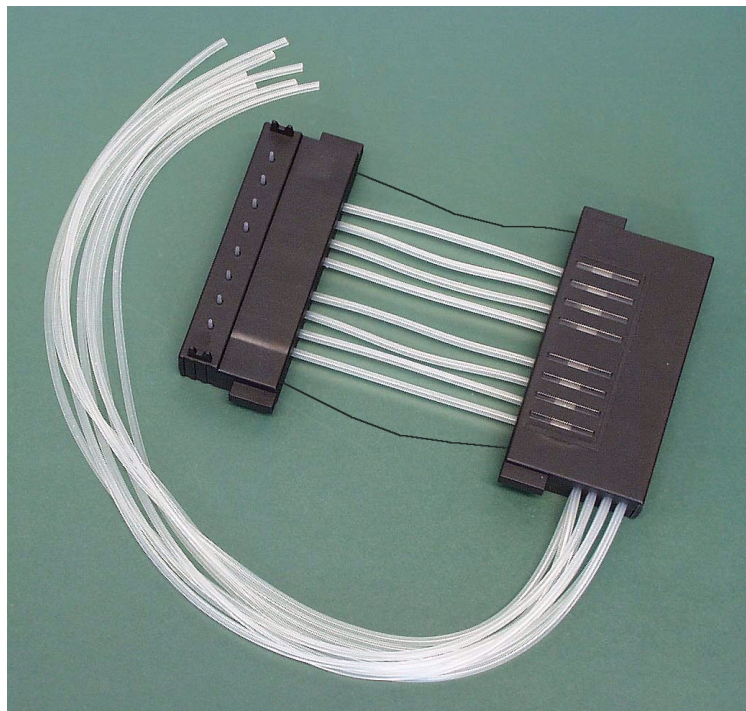

Fig. 7.34 Dispensing cassette precalibrated
18. When the tube fasteners have all been adjusted roughly to the middle of the sight strip, close the calibration screw cover (Fig. 7.34).